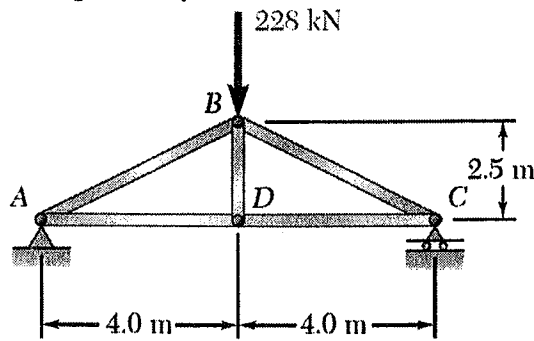

Figure 1a
- a. For the steel truss ( $E = 200 \text{ GPa}$ ) and loading shown in Figure 1a, determine the deformations of members AB and AD, given that their cross-sectional areas are  $2400 \text{ mm}^2$  and  $1800 \text{ mm}^2$ , respectively.